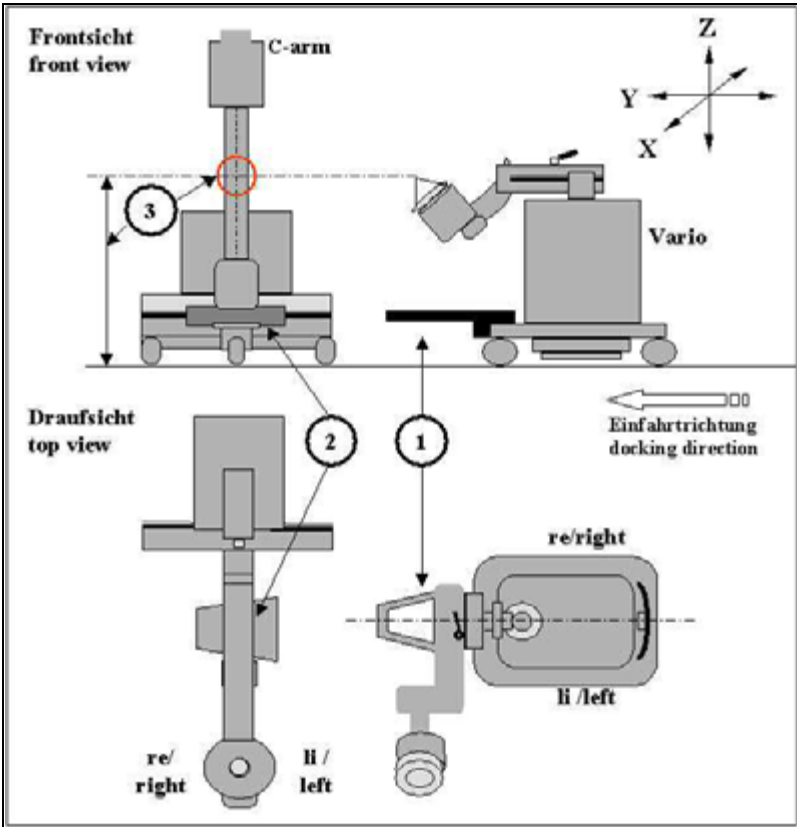
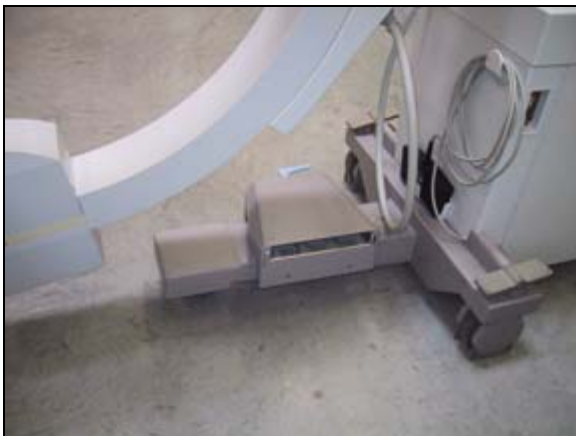

Fig. 5: Docking unit
Fig. 16: View 3
For the sake of clarity regarding technical work on all components, the coordinates are determined in this document in Fig. (Fig. 5 / p. 13) (Vario with shock wave focus, C-arm unit with iso-center, patient table). Side designations left and right are always used for Vario and C-arm unit from the viewpoint of the operator in a forward direction.
The docking mandrel is pre-installed on the Vario centrally in relation to the longitudinal axis (1/Fig. 5 / p. 13) and can be adjusted by 30 mm in height (200 to 230 mm above the floor). The height is determined depending on the installation of the docking bridge. The docking bridge is installed on the front C-arm unit extension (2/Fig. 5 / p. 13) and (Fig. 16 / p. 18).
- Set the C-arm vertically to approx. 1070 mm in the center ((3/Fig. 5 / p. 13)_ Z direction)
- Set the Vario docking mandrel in the horizontal position (1/Fig. 5 / p. 13).